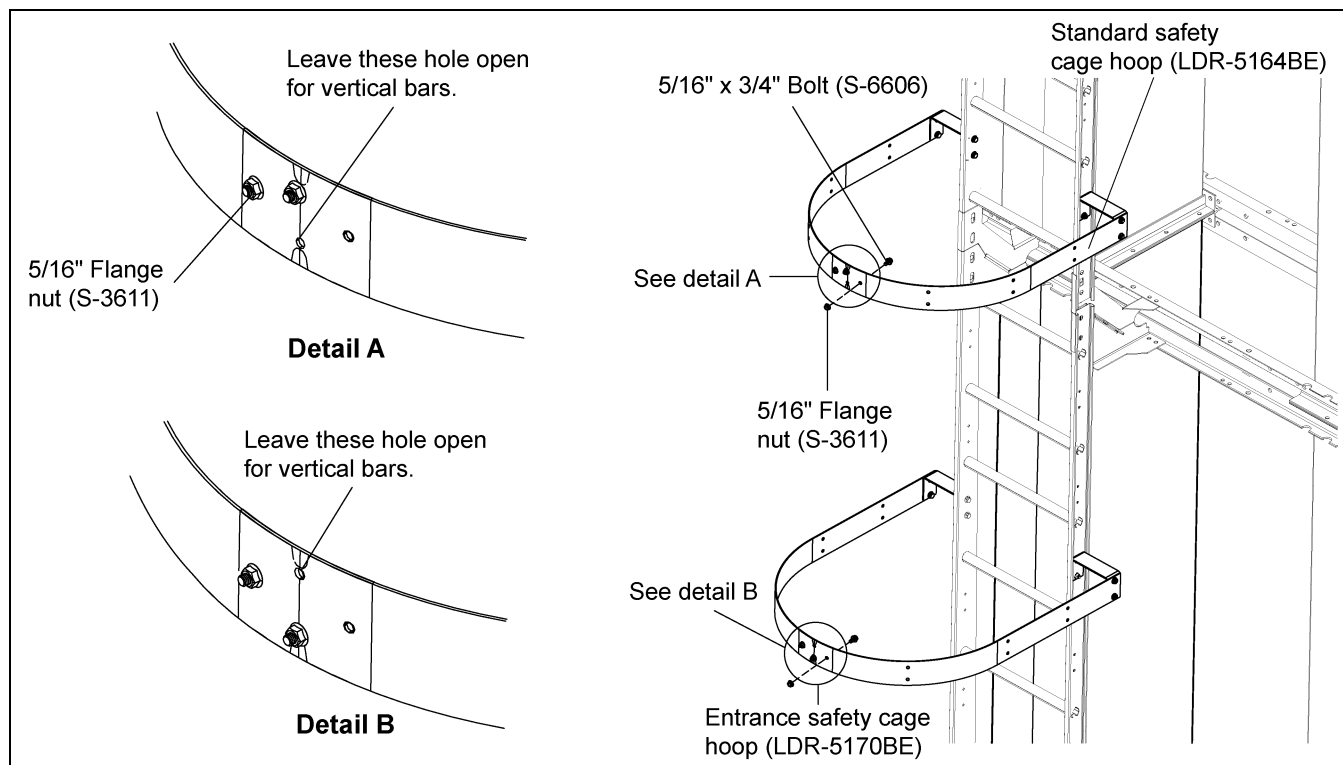

Figure 5P
3. Connect the hoops together using two (2) 5/16" x 3/4" bolts and nuts. (See Figure 5P.)